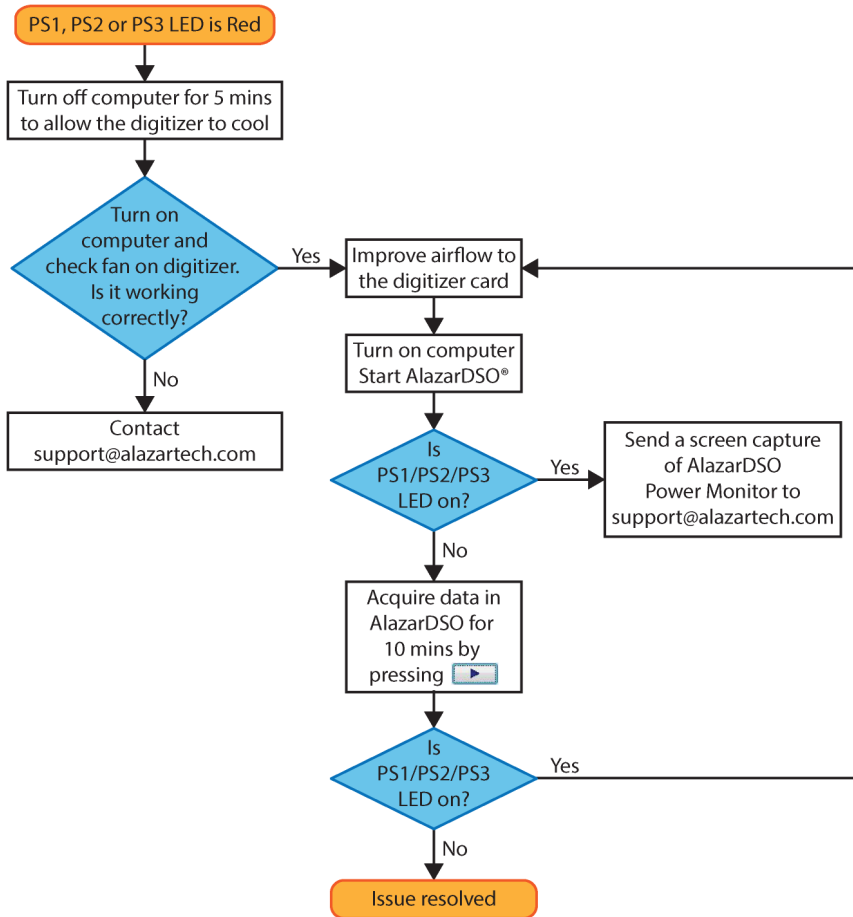

Figure 4 – Flowchart for Power Monitor Status LEDs
- **PS1 (LED8):** This LED being red means that there is an issue with one or more on-board power supplies. More details are available in the Power Monitor plug-in of AlazarDSO. Refer to Figure 4 – Flowchart for Power Monitor Status LEDs for steps to follow if this LED is red.
- **PS2 (LED9):** This LED being red means that there is an issue with one or more on-board power supplies. More details are available in the Power Monitor plug-in of AlazarDSO. Refer to *Figure 4 – Flowchart for Power Monitor Status LEDs* for steps to follow if this LED is red.
- **PS3 (LED10):** This LED being red means that there is an issue with one or more on-board power supplies. More details are available in the Power Monitor plug-in of AlazarDSO. Refer to *Figure 4 – Flowchart for Power Monitor Status LEDs* for steps to follow if this LED is red.